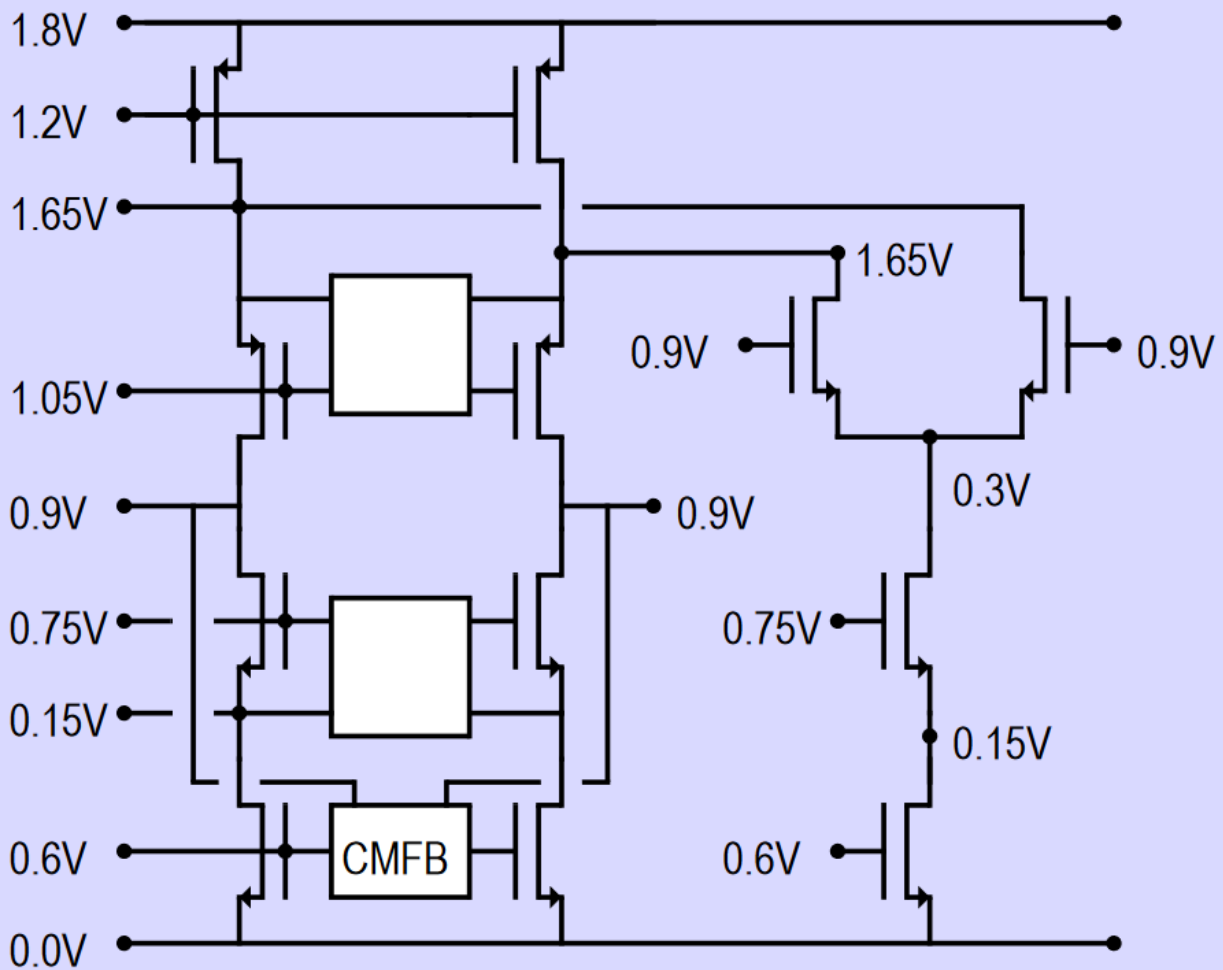

Fig.7. All node voltages
- 2) Schematic with all node voltages, as shown in fig. 7 (not a simulator schematic).